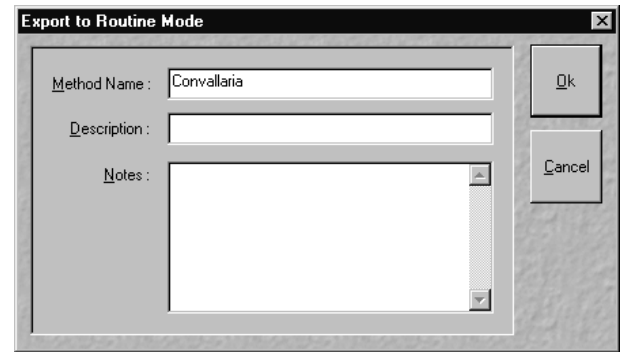

Fig. 4-202 Export to Routine Mode window
- Click on the **Options** button of the **Main** menu and then on **Export RM** (see Fig. 4-202).